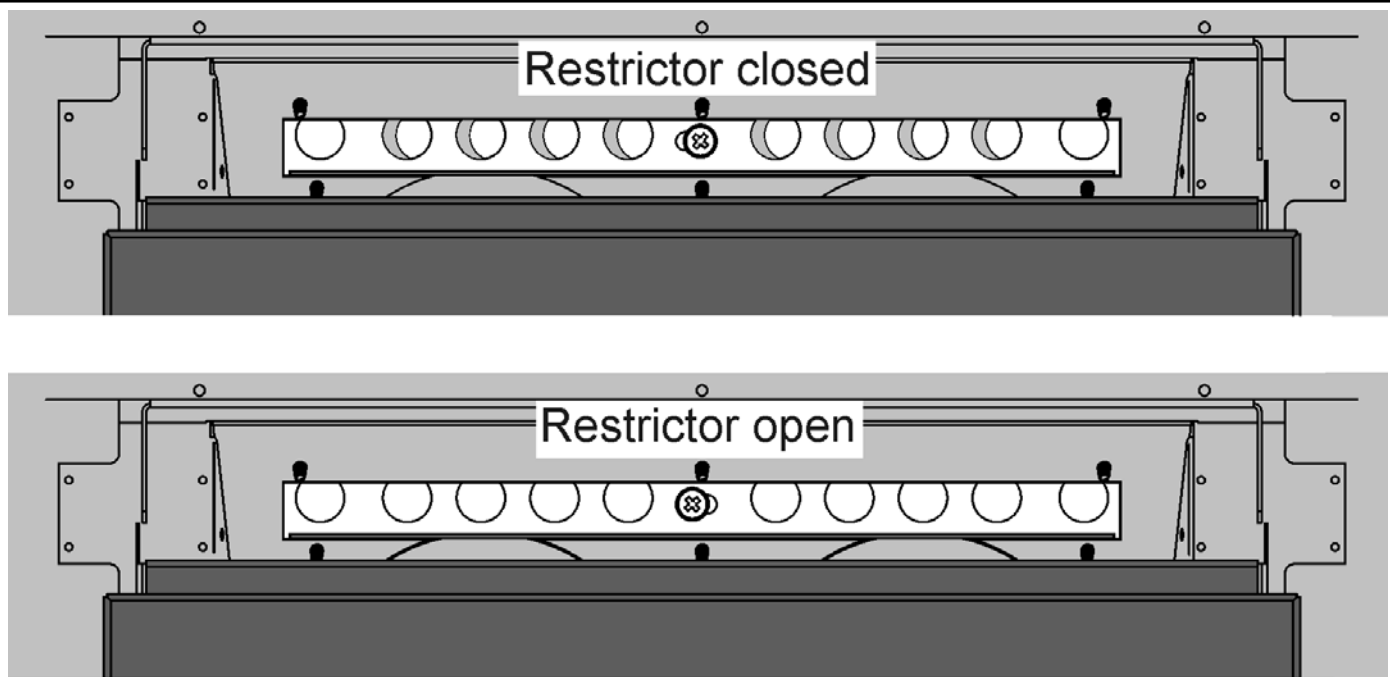

Figure 14.
The restrictor is supplied in the fully open position and can be adjusted. To adjust the restrictor, locate the central screw at the rear of the convected air outlet (See figure 14). Loosen the screw and with the screw driver still in the head of the screw, slide the restrictor to the desired position. Secure the restrictor by tightening the screw.
6. The installation is satisfactory if the smoke is drawn into the appliance. If the smoke is not drawn into the appliance, leave the appliance alight at the 'HIGH' setting for a further ten minutes and then repeat the test. If smoke is still not drawn into the appliance, inspect the sealing to the fireplace surround. If the sealing is satisfactory but the appliance is installed with the flue restrictor (See section 9.3), adjust the restrictor to the fully open position. To adjust the restrictor, locate the central screw at the rear of the convected air outlet (See figure 14). Loosen the screw and with the screw driver still in the head of the screw, slide the restrictor to the desired position. Secure the restrictor by tightening the screw. Retest the fire. If smoke is still not drawn into the appliance, disconnect the appliance and seek expert advice.